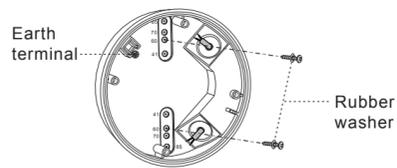

FIG.16
3.4.3.3 Choose proper knockouts to fix the enclosure on the surface of ceiling board with 2pcs wood screws attached with rubber washer (See FIG.16).